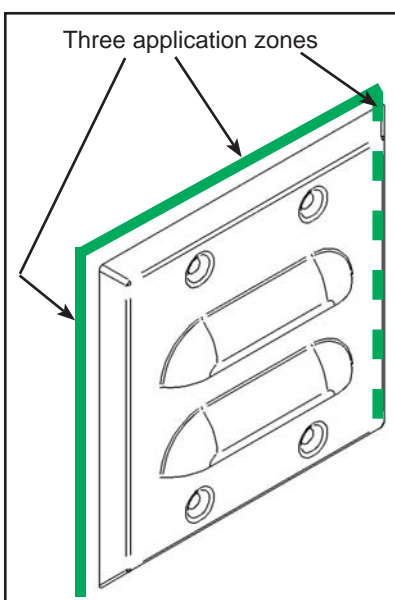

Figure 3 - Sealant Application Zones on Wall Plate Back
- 1.10. Apply N32989 butyl sealant, or equivalent, on the top, left and right sides of the new N44478 wall plate back. See Figure 3.